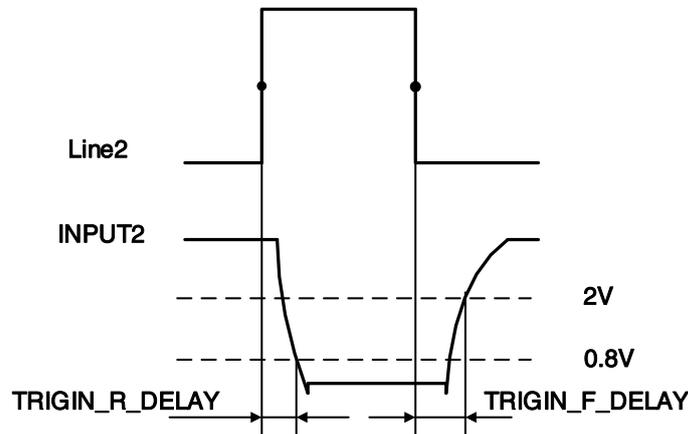

Figure 7-27 Parameter of Line2 input circuit
- Input rising time delay:  $<2\mu\text{s}$  ( $0^{\circ}\text{C}\sim 45^{\circ}\text{C}$ ), parameter description as shown in Figure 7-27
- Input falling time delay:  $<2\mu\text{s}$  ( $0^{\circ}\text{C}\sim 45^{\circ}\text{C}$ ), parameter description as shown in Figure 7-27